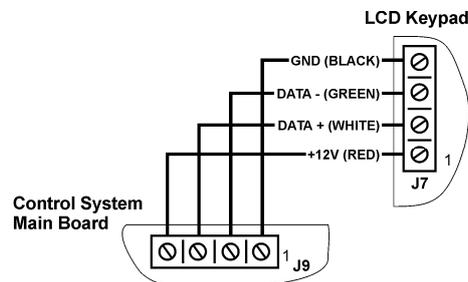

Figure 2-8: Connections for Hardwire LCD Keypad
6. Connect the terminal block on the keypad to the appropriate terminal block on the Control System's main board as shown in Figure 2-8.